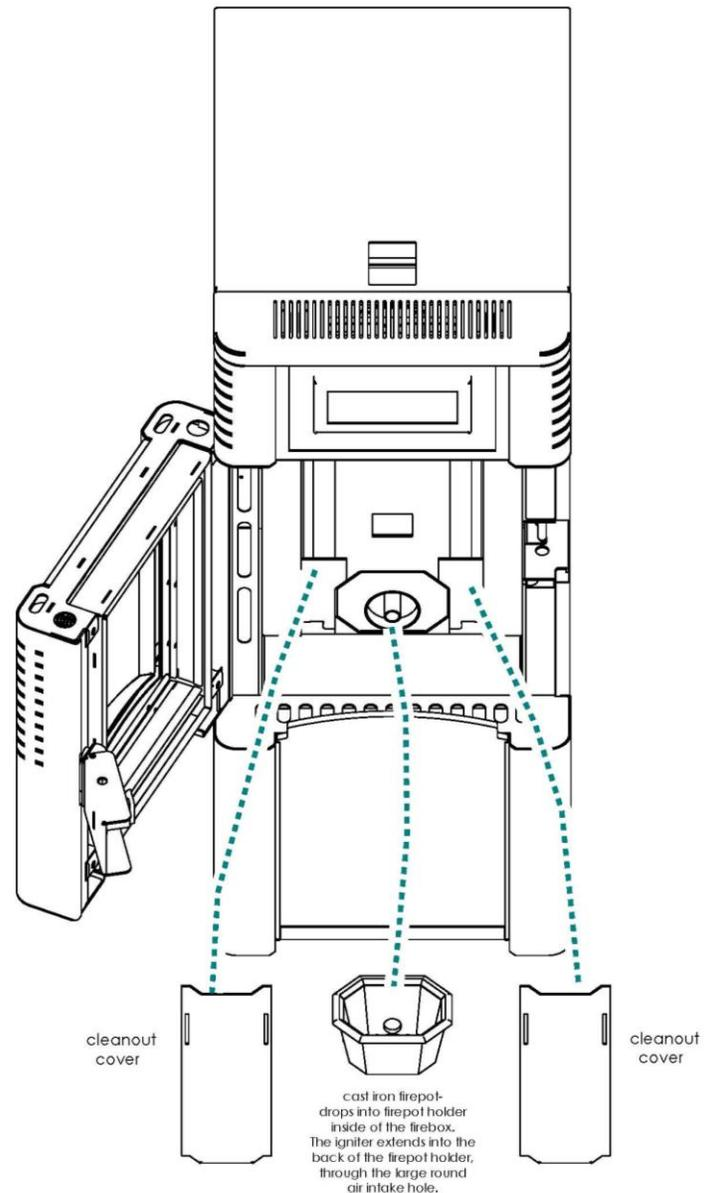

FIGURE 13
- c. Open door and remove clean out cover. To remove, simply lift out from each side (see **FIGURE 13**). Clean one side at a time. With covers removed, leave the door open and push the “Clean” button. Let heater run 45 seconds, push to “Off,” and replace cover. Remove the remaining clean out cover and repeat procedure for other side.
2. **Cleaning the Exhaust Fan Blade & Heat Exchanger:** The exhaust blower should be checked for excessive fly ash buildup. Regular and routine maintenance utilizing the clean out feature will keep the exhaust blower housing and fan blades clean. This cleaning can only be done when the heater is not burning. For best results, run the fan in the "Clean" position with the door open for approximately 45 seconds or until ash is no longer being picked up by the fan. Always check the clean out cap on the tee after utilizing the clean feature (See **FIGURE 13 for routine stove clean out and maintenance.**)